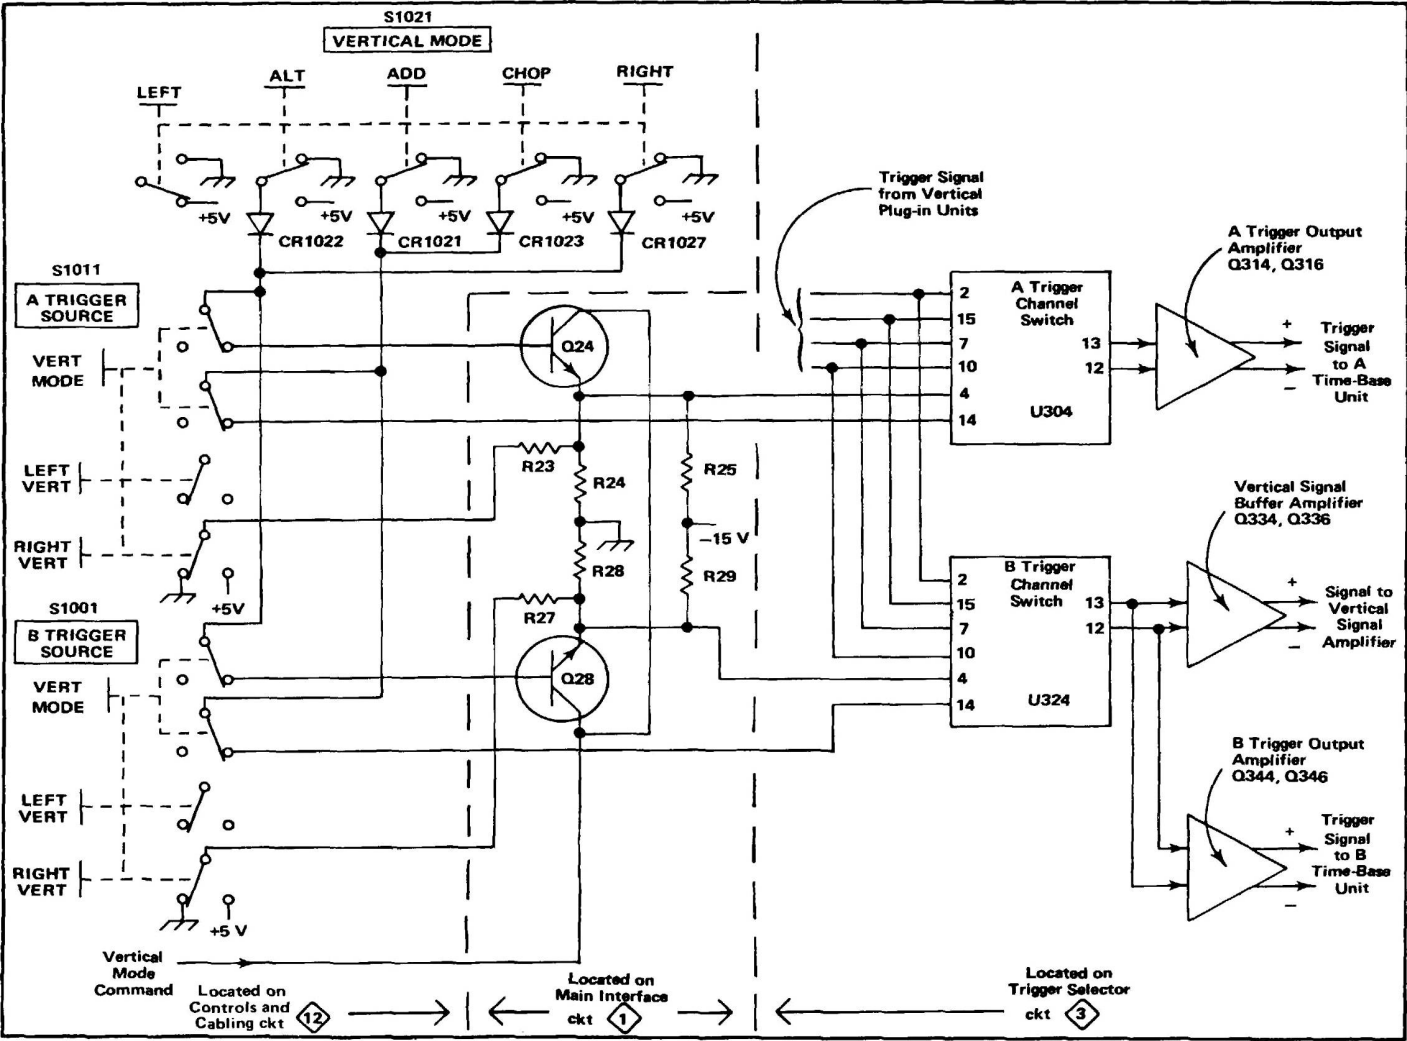

Fig. 3-21. Simplified schematic of trigger selector circuitry.
SOURCE switches. This circuit also provides the drive signal for the Vertical Signal Amplifier stage as controlled by the B TRIGGER SOURCE switch. Fig. 3-21 shows a detailed block diagram of the Trigger Selector circuit along with a simplified diagram of all the circuitry involved in selection of the trigger source. A schematic of the Trigger Selector circuit is shown on diagram 3 at the rear of this manual. Also see diagrams 1 and 12 for the trigger selection circuitry not shown on diagram 3.
**General.** The circuitry shown on the left side of the simplified diagram in Fig. 3-21 determines the operation of the A and B Trigger Channel Switch stages. The A TRIGGER SOURCE switch S1011 controls the A Trigger Channel Switch U304 through Q24; the B TRIGGER SOURCE switch S1001 controls the B Trigger Channel Switch U324 through Q28. When the front-panel A or B TRIGGER SOURCE switches are set to the VERT MODE positions, the setting of the VERTICAL MODE switch determines the trigger selection. In the LEFT VERT or RIGHT VERT positions, the trigger signal is obtained from the indicated vertical unit. The following discussions give detailed operation in each position of the A and B TRIGGER SOURCE switches. It is written assuming that both of these switches are set to the same position. However, the A and B TRIGGER SOURCE switches can be operated independently to control the operation of the A and B Trigger Channel Switch stages, respectively, and select the trigger output signal for the associated time-base unit.